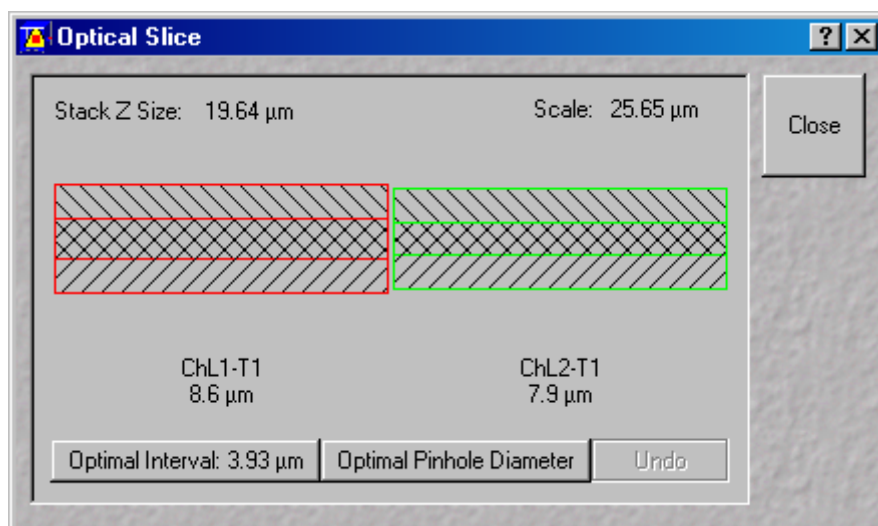

Fig. 4-63 Optical Slice window
**Z Slice:** Opens the **Optical Slice** window (Fig. 4-63). The **Optical Slice** window contains three buttons (**Optimal Interval: ... µm**, **Optimal Pinhole Diameter** (confocal aperture) and **Undo**) to allow the setting of the optimal interval and the optimal aperture size of fluorescence stacks. Both values influence each other and depend on the objective used.